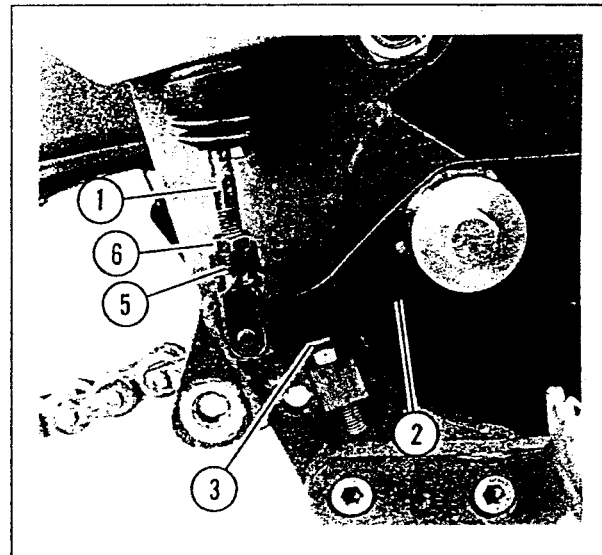

Figure 5-78. Free Play Adjustment
2. See Figure 5-78. Depress brake pedal only as far as necessary for push rod (1) to contact master cylinder piston (a significant resistance can be felt). Hold pedal in this position while making adjustment in Steps 3 through 7.
3. Measure clearance between brake pedal (2) and adjusting screw (3). Clearance should be 1.6 mm (1/16 in.).
4. If clearance is not 1.6 mm (1/16 in.), use long nose pliers and remove and discard locking wire (4).
5. See Figure 5-78. Remove lock wire, unsnap clevis lock (5) and swing out of way.
6. Loosen lock nut (6).
7. Lengthen or shorten push rod (1) by rotating it until clearance is 1.6 mm (1/16 in.).
8. Tighten lock nut (6).
9. Snap clevis lock (5) over clevis.
10. Install new lock wire (4).